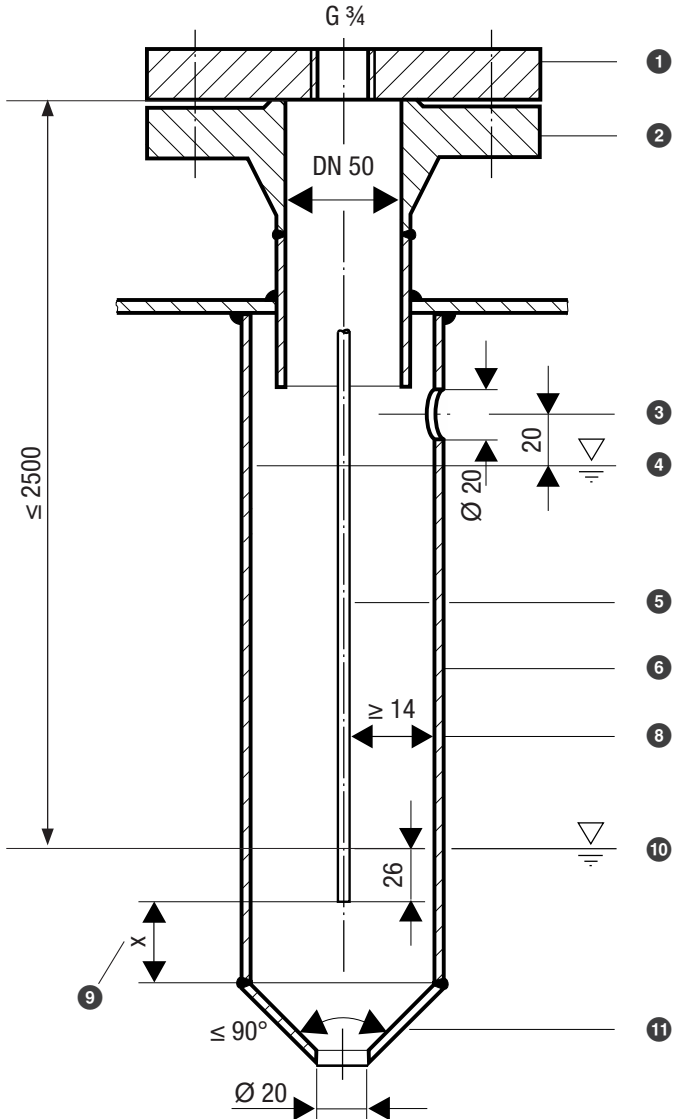

Fig. 9
- Pay attention to the minimum clearances when installing the level electrode, see installation examples Fig. 9 to Fig. 12.
Installation example with dimensions, see Fig. 9, page 26
Key Fig. 9 to Fig. 12
- 1 Fig. 9, 13: Flange (PN 40, DN 50) EN 1092-1 (single electrode)